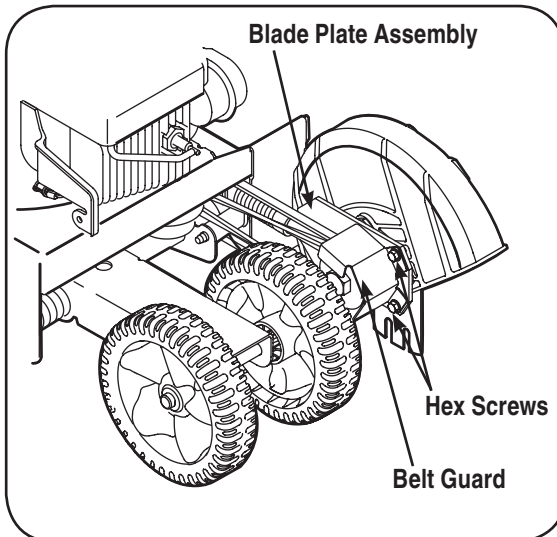

Figure 8
3. Remove the belt guard by removing the two self-tapping screws which secure it to the blade plate assembly. See Figure 8.
3. Remove the spindle sheaves belt guard by removing the two self-tapping screws which secure it to the blade plate assembly. See Figure 8.